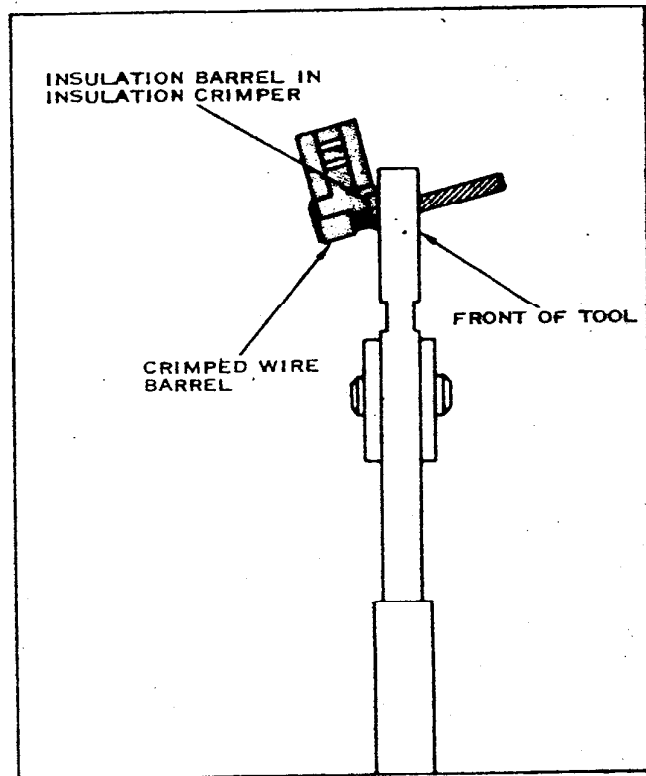

FIGURE 5
6. Place the terminal's insulation barrel in the Insulation Crimp Section. Figure 5 shows you how.